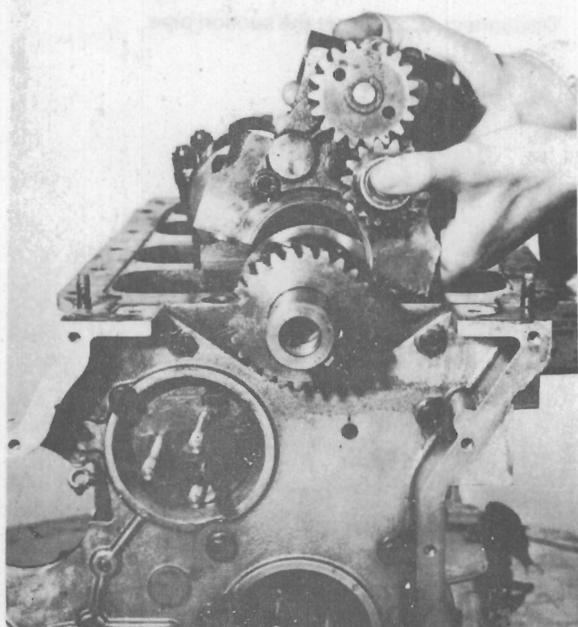

Fig. L.7.
6. Remove No. 1 main bearing cap and pump as one assembly. (See Fig. L.7).